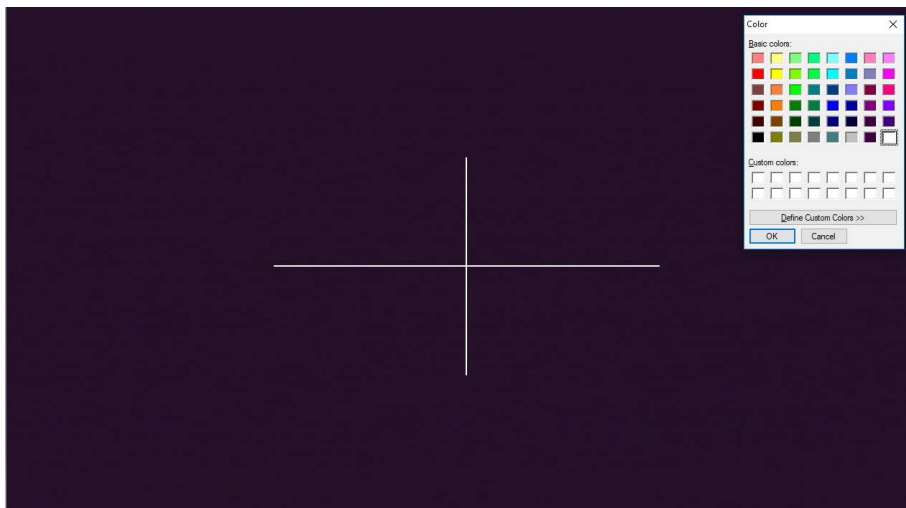

Fig 5-75 Change Line color to White
- (3) Choose Color  : Choose the Auxiliary Line color. Fig 5-75 is to change the line color.